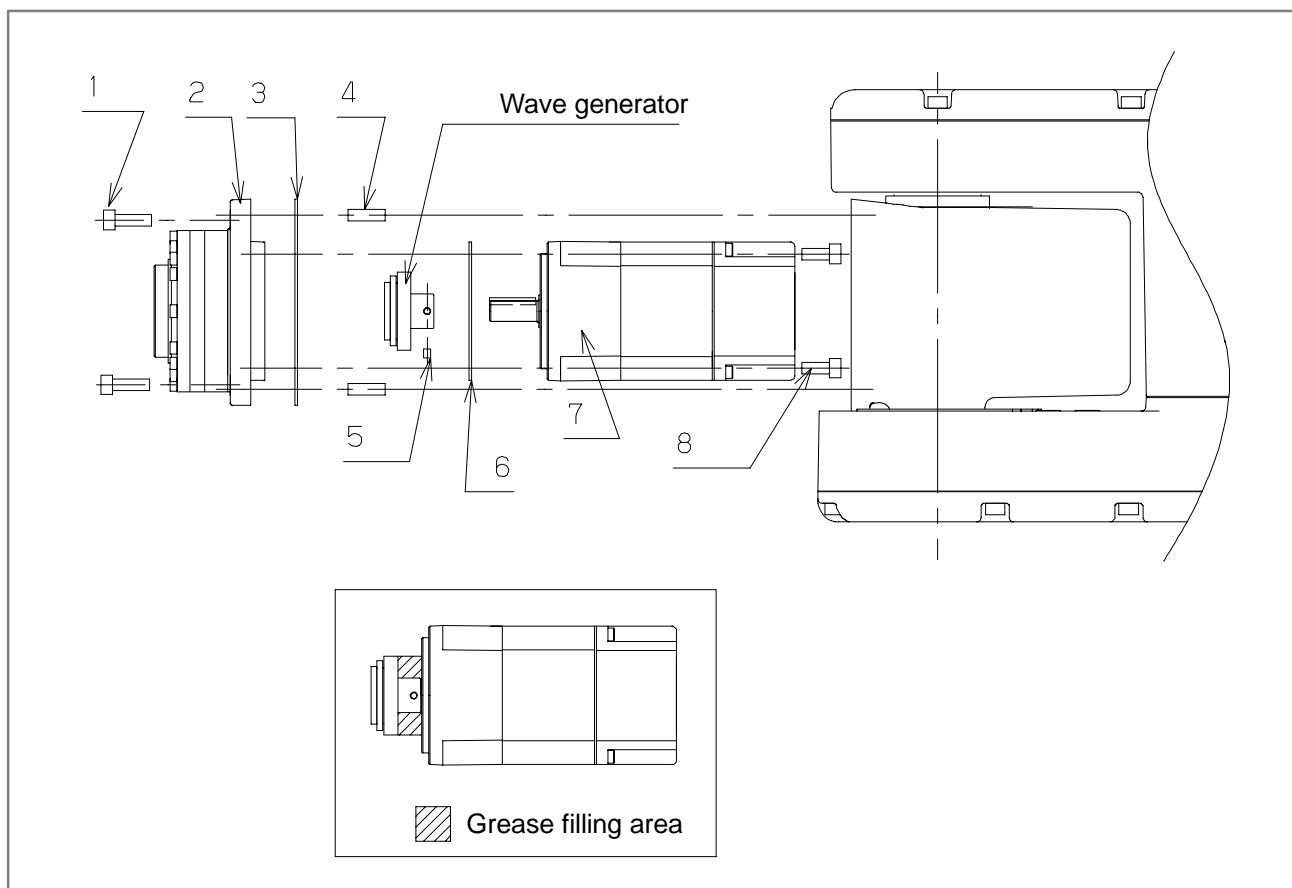

Fig.6.10 Replacing J5-axis motor
- 1 Remove bolt (1), then remove pin (4), packing (3), and adapter (2).
- 2 Detach the connector attached to motor (7).
- 3 Remove bolt (8), then remove packing (6) and motor (7).
- 4 Remove setscrew (5), then remove the wave generator.
- 5 Using a new motor and packing, assemble the J5-axis motor by reversing the procedure above. Feed grease sufficiently according to Fig. 6.10.